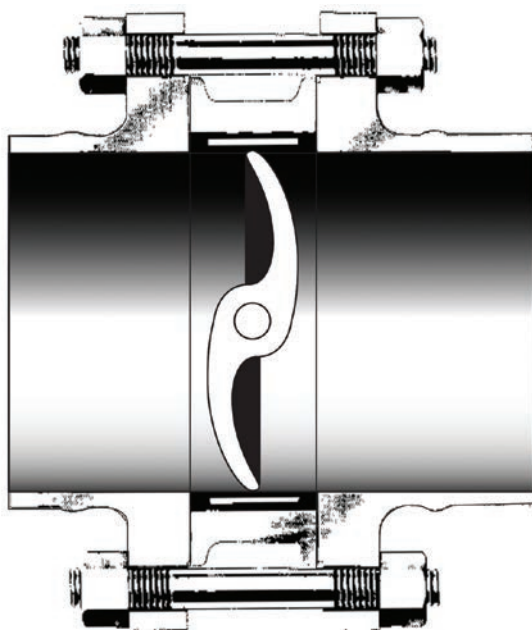

Figure 2
3. Use flat- or raised-face, welding-neck flanges with a bore size equal to the inner diameter of the line. When the valve is equipped with an elastomer sleeve, the flange bore equals the inner diameter of the sleeve and the flange faces must entirely cover the sleeve faces (see Figure 2).